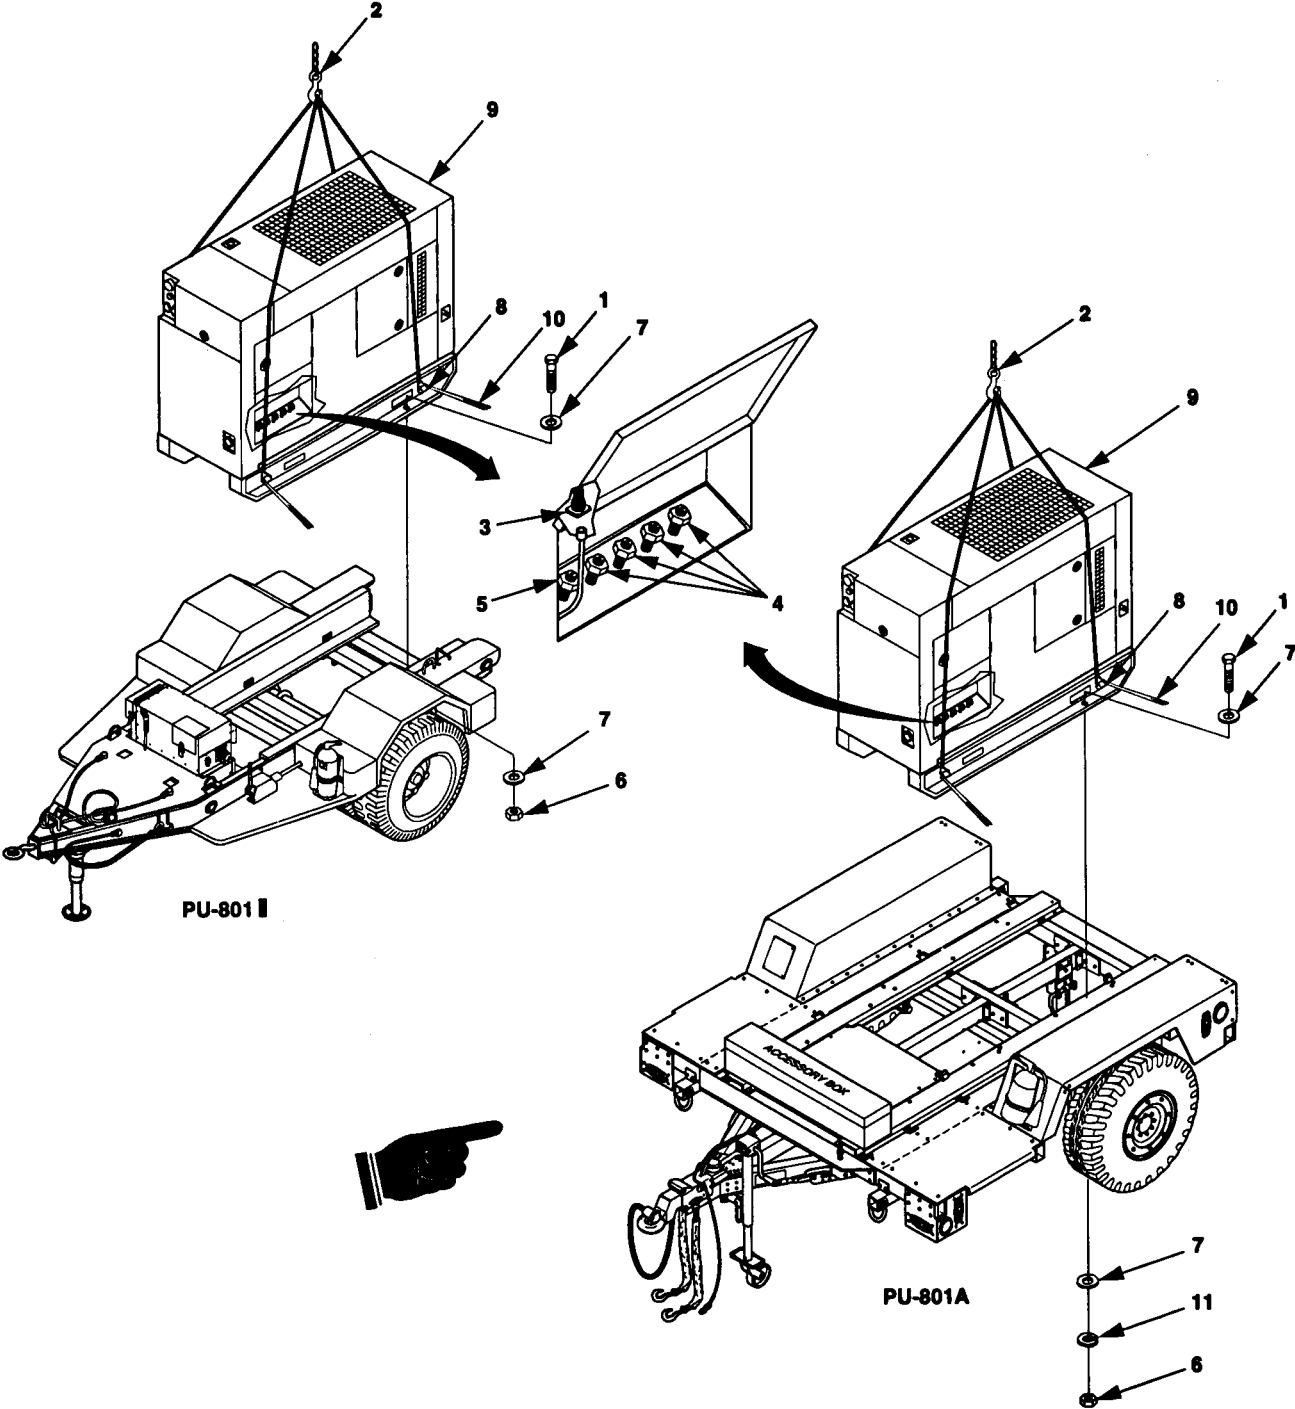

Figure 5-10. Generator Set Removal.
1. When removing the generator set from unit A of the power plant, disconnect P1 (3, Figure 5-10) from generator set.
2. Loosen GND terminal of generator set and disconnect ground cable (5) from the generator set.
3. If removing PU-801A generator set, perform this step and then go to step (5). Remove four nuts (6), lock washers (11), eight flat washers (7), and four screws (1).
4. For all other units, remove the four screws (1), eight flat washers (7), and four self-locking nuts (6) securing the generator set to the trailer.
5. Attach lifting equipment (2) with a minimum lifting capacity of 6000 lb as shown in figure 5-10.
6. Insert ropes (10) through each of four lifting rings (8) on the generator set as shown in figure 5-10.
7. With one person at each rope (10) to steady and guide generator set (9), lift generator set.
1. Attach lifting equipment (2) with a minimum lifting capacity of 6000 lb as shown in figure 5-10.
2. Insert rope (10) through four lifting rings (8) on generator set (9).
3. With one person at each rope (10) to steady and guide the generator set (9), lift the generator set.